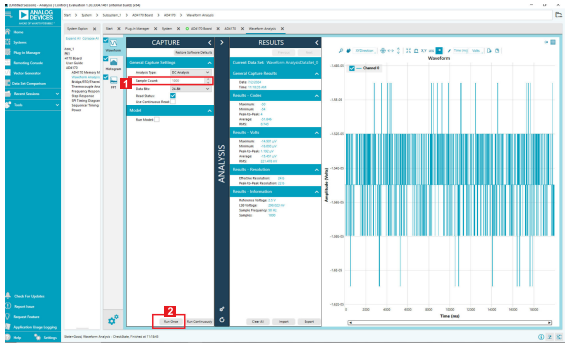

Figure 28. Noise Test Waveform Display
- 4. To gather samples, change **Sample Count** (Label 1, Figure 28) to the number of samples required, then click the **Run Once** button (Label 2, Figure 28) to acquire the samples from the ADC. Figure 28 shows an example of the **Waveform Analysis** window after running a noise test.